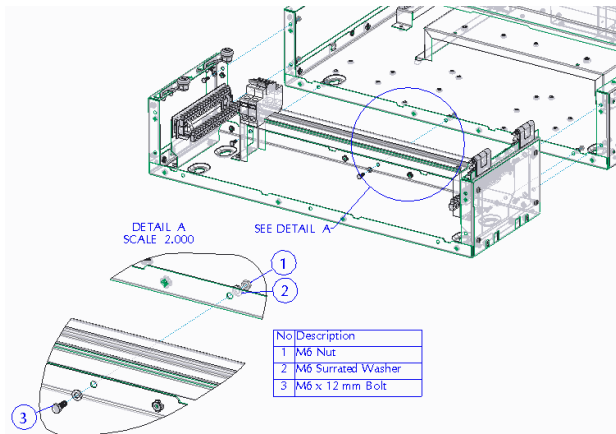

Fig. 2
- When the shield, door and gland plate have been removed, start to assemble the add-on enclosure to the panelboard by referring to Fig. 2.